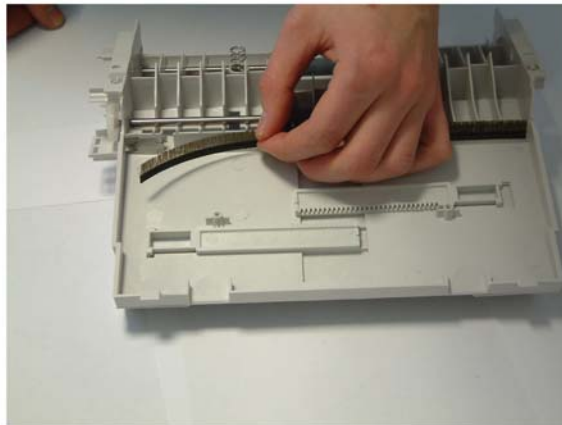

Figure 3
4. Carefully remove the antistatic brush, Figure 3.